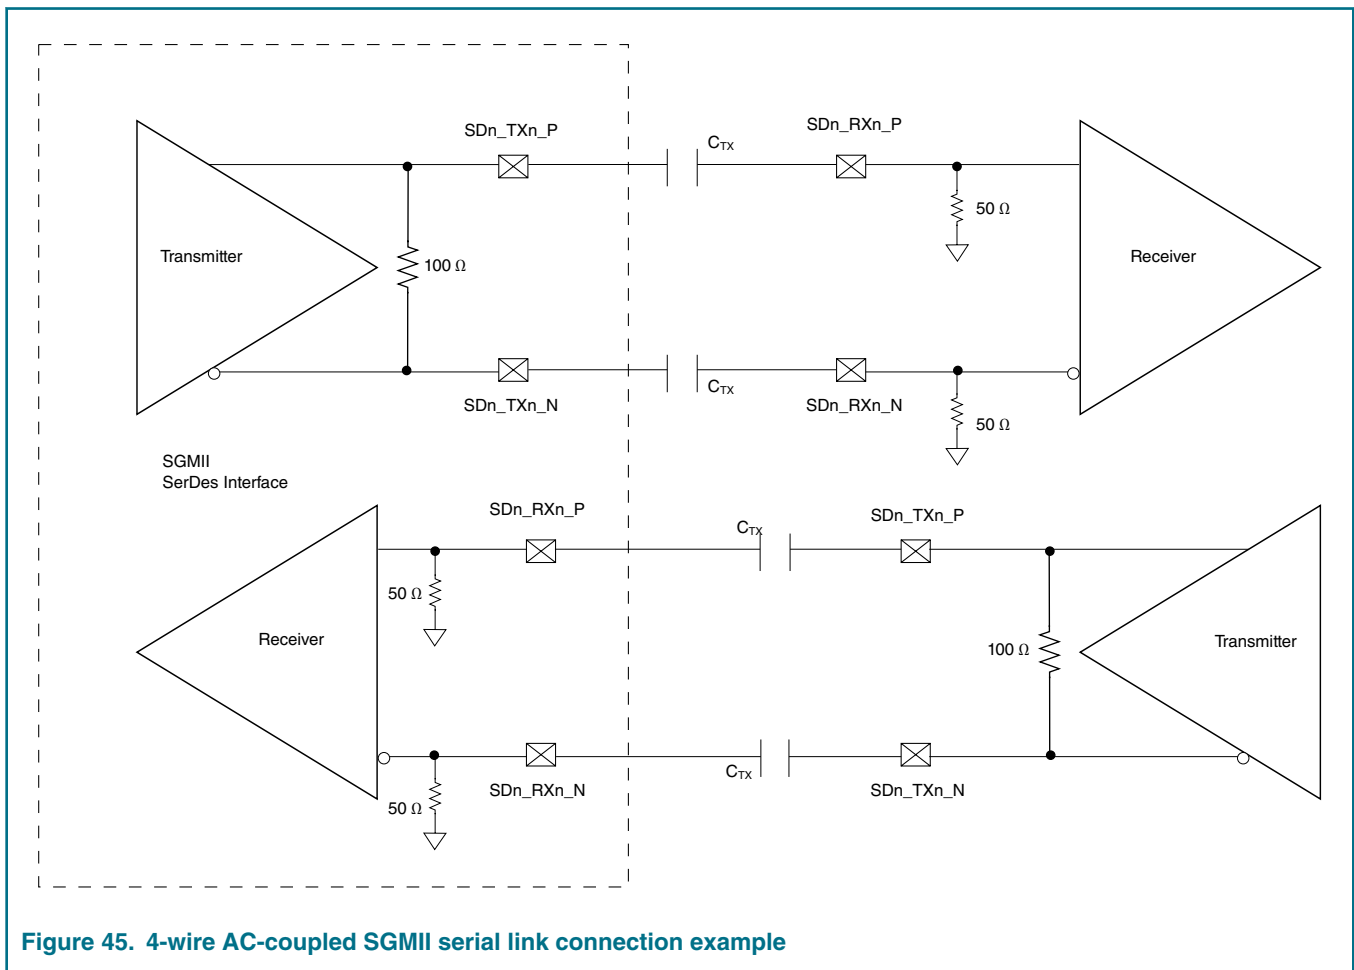

Figure 45. 4-wire AC-coupled SGMII serial link connection example
Each SGMII port features a 4-wire AC-coupled serial link from the SerDes interface of the chip, as shown in Figure 45, on page 140, where C_{TX} is the external (on board) AC-coupled capacitor. Each SerDes transmitter differential pair features 100- Ω output impedance. Each input of the SerDes receiver differential pair features 50- Ω on-die termination to XGND n . The reference circuit of the SerDes transmitter and receiver is shown in Figure 42, on page 122.
12. See Figure 45. on page 140.